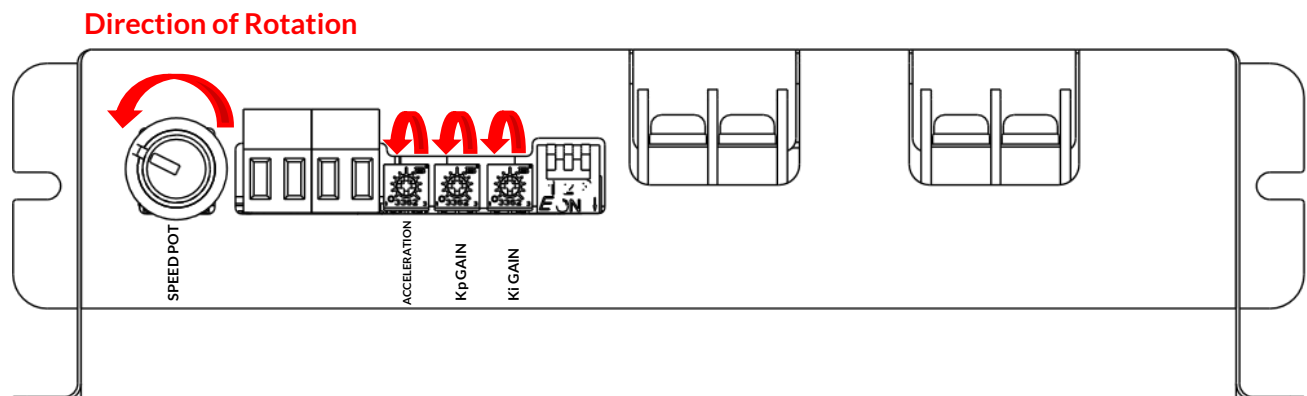

Figure 3-7 – Pre-Setting of Potentiometers for Tuning of CLSL mode
3. **Put the Kp GAIN, Ki GAIN, ACCELERATION and SPEED Potentiometer on minimum**, at this point all the mentioned 4 potentiometers should be rotated in CCW direction up until they reach to their Minimum by getting blocked in CCW direction as in Figure 3-7.